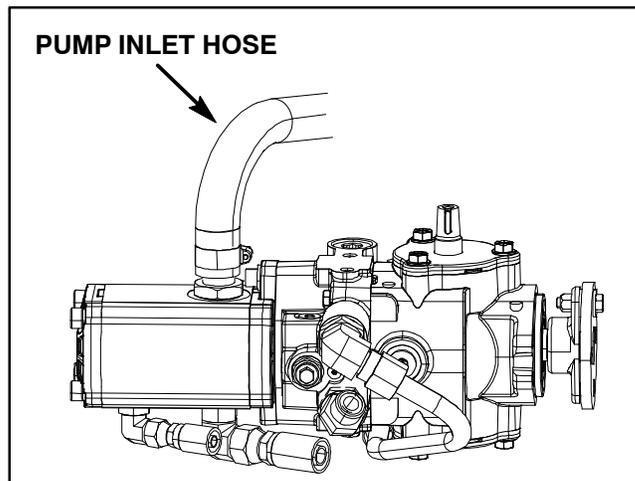

Figure 34
2. Clean area around gear pump and pump inlet hose (Fig. 34). Clamp pump inlet hose. Remove hose from gear pump, release clamp and drain reservoir into a suitable container. Drain hydraulic system while making sure lift cylinders, hydraulic hoses, hydraulic tubes and all other components are drained from low points while the system is warm.